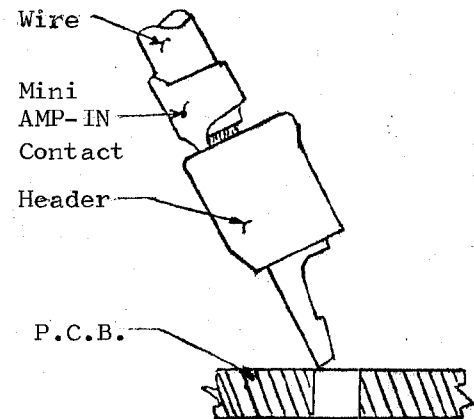

Fig. 2
- 3.1 As you insert header-loaded contacts in PCB holes, tilt the header toward you a little, so that the contact end alignment is visible and easy to control as shown in Fig. 2. Confirm right positioning of contacts with the holes.